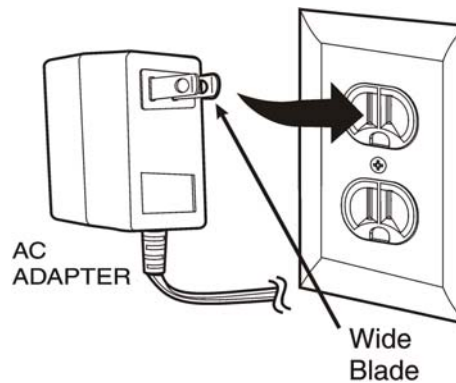

Figure 5-172 Plugging the AC Adapter into the AC Wall Outlet
7. Plug the AC adapter into a standard 230 Vac wall outlet. Refer to Figure 5-172 Plugging the AC Adapter into the AC Wall Outlet on page 5-148.